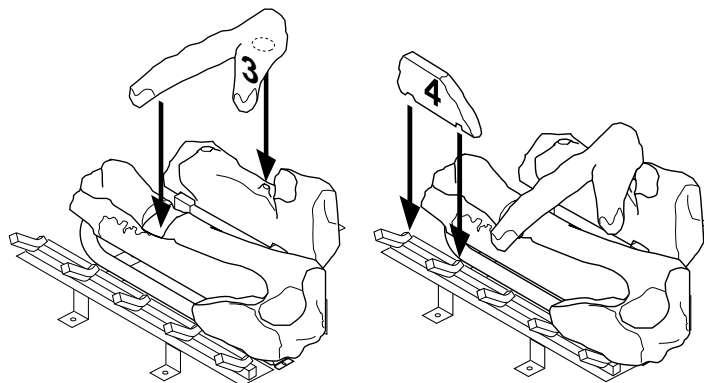

Figure 57 - Installing Log No. 3 Figure 58 - Installing Log No. 4
3. Place log #3 (crossover log) onto the rear and front logs. Make sure it is seated properly into the notch on the front log and over the raised triangular portion of the rear log as shown in Figure 57.